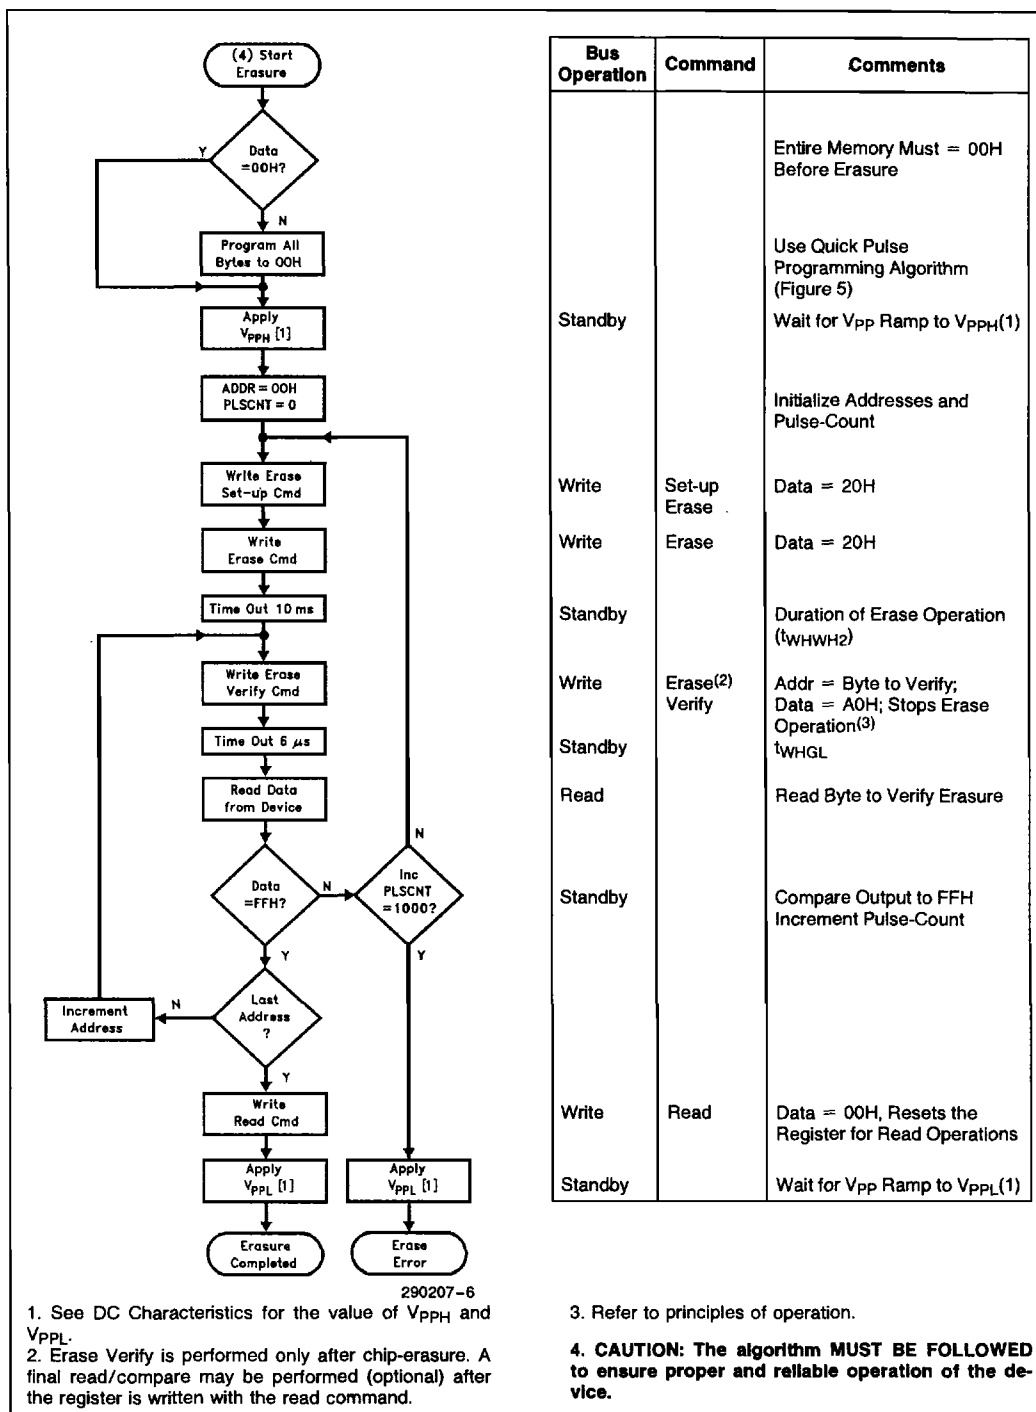

Figure 5. 28F010 Quick Erase Algorithm
- Figure 5 illustrates the Quick Erase Algorithm.
In the case where the data read is not FFH, another erase operation is performed. (Refer to Set-up Erase/Erase). Verification then resumes from the address of the last-verified byte. Once all bytes in the array have been verified, the erase step is complete. The device can be programmed. At this point, the verify operation is terminated by writing a valid command (e.g. Program Set-up) to the command register. Figure 5, the Quick Erase algorithm, illustrates how commands and bus operations are combined to perform electrical erasure of the 28F010. Refer to AC Erase Characteristics and Waveforms for specific timing parameters.
The 28F010 applies an internally-generated margin voltage to the byte. A microprocessor read cycle outputs the data. A successful comparison between the programmed byte and true data means that the byte is successfully programmed. Programming then proceeds to the next desired byte location. Figure 5, the 28F010 Quick Pulse Programming algorithm, illustrates how commands are combined with bus operations to perform byte programming. Refer to AC Programming Characteristics and Waveforms for specific timing parameters.
Erase execution then continues with an initial erase operation. Erase verification (data = FFH) begins at address 0000H and continues through the array to the last address, or until data other than FFH is encountered. With each erase operation, an increasing number of bytes verify to the erased state. Erase efficiency may be improved by storing the address of the last byte verified in a register. Following the next erase operation, verification starts at that stored address location. Erasure typically occurs in one second. Figure 5 illustrates the Quick Erase algorithm.